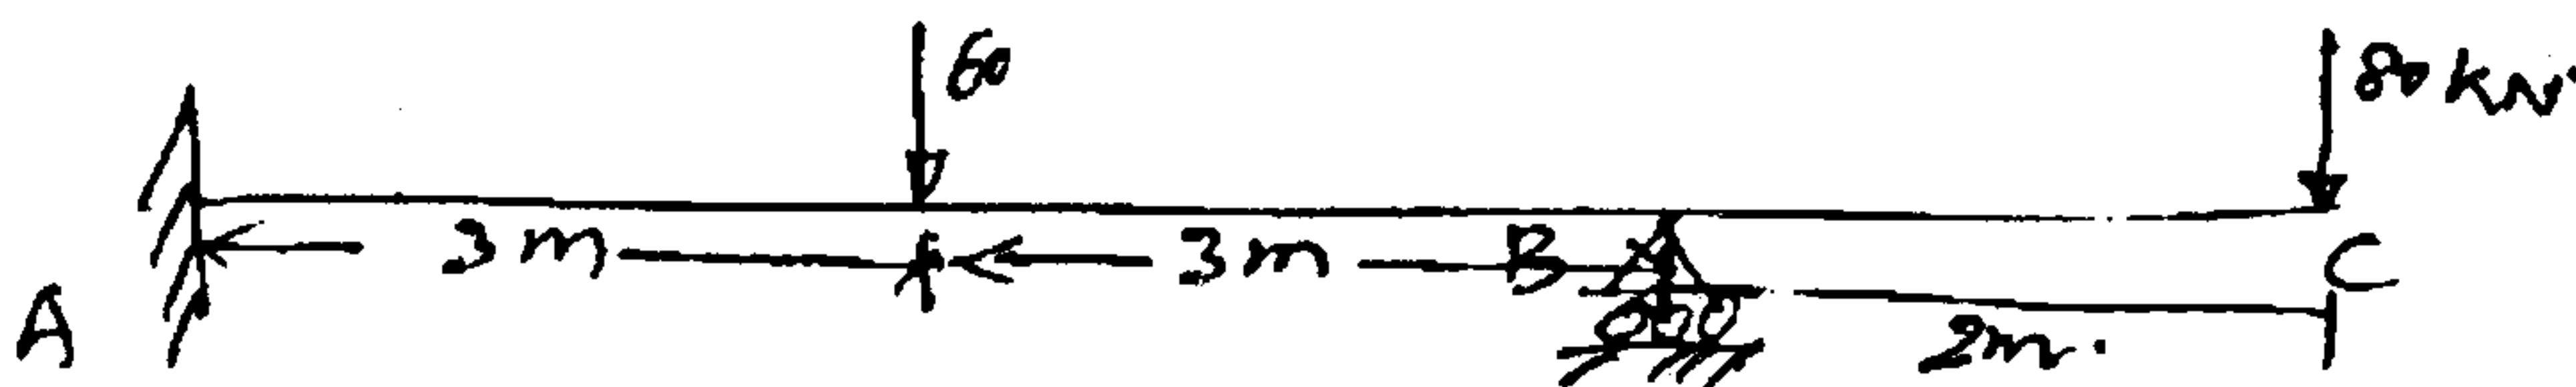

Fig. 14 (a)
- (b) A parabolic two hinged arch has a span of 30 m and a rise of 3 m. A concentrated load of 12 kN acts at 7.5 m from the left end support. The second moment of area varies as the secant of the inclination of the arch axis. Calculate the horizontal thrust and reactions at the hinge. Also calculate the maximum bending moment at the section and draw the bending moment diagram. (16)
14. (a) Analyse the beam loaded as shown in Fig. 14 (a) by the slope deflection method and draw the bending moment diagram and shear force diagram. EI is constant. (16)